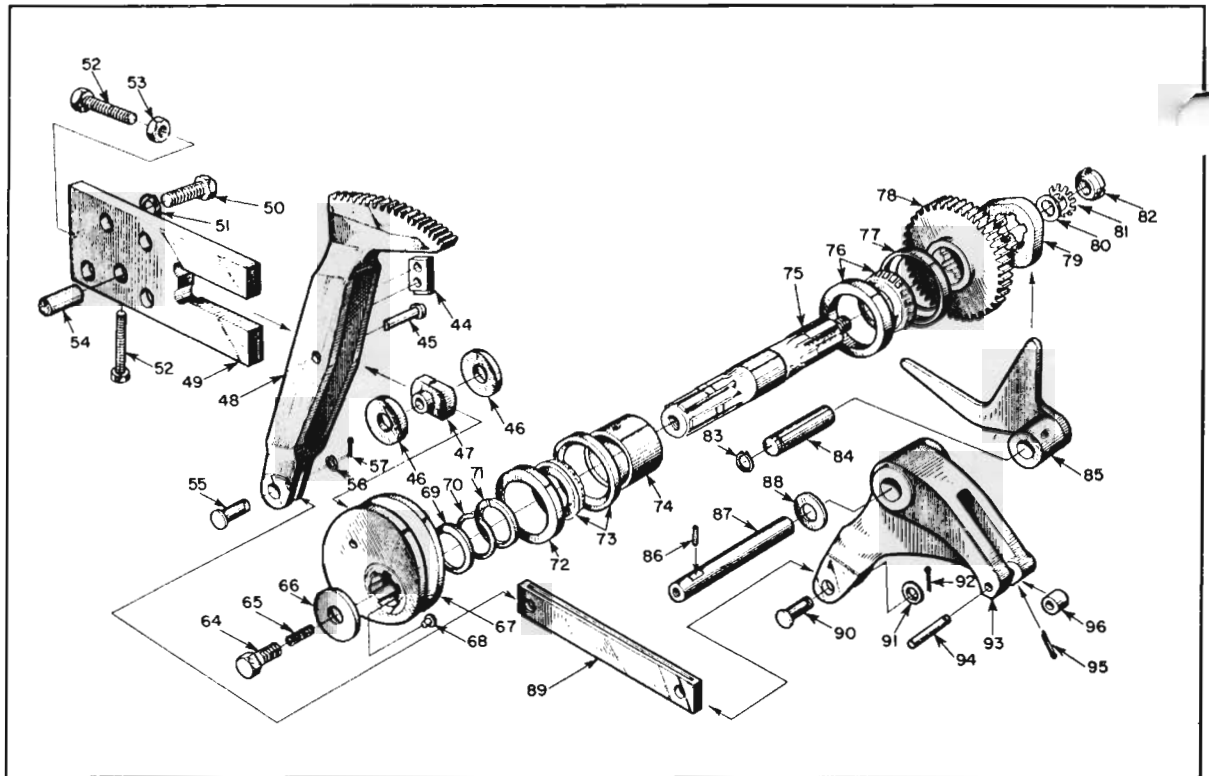

Figure 3-3
2. Refer to Figure 3-3 and remove the following from the withdrawal cam shaft:
- (64) Cam Shaft Screw
- (66) Withdrawal Cam Retainer
- (67) Withdrawal Cam
- (69) Withdrawal Cam Spacer
3. Assemble the bearing outer races (73 and 76) (Figure 3-3) into the bed of the machine.